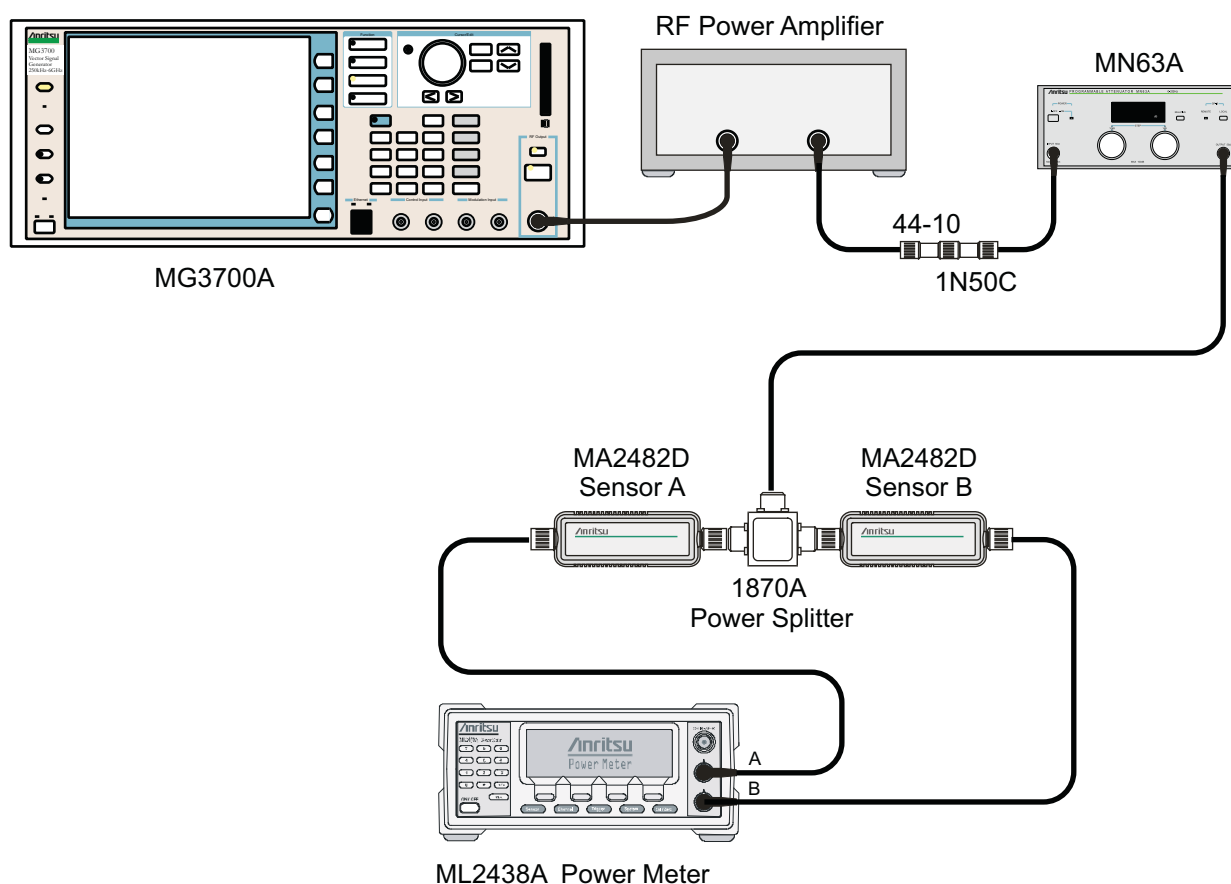

Figure 3-6. ISDB-T SFN Level Accuracy Pre-test Setup
3. Connect the MG3700A Signal Generator, Power Amplifier with N(f)-BNC(m) adapters, RF Limiter, MN63A Programmable Attenuator, Power Divider, Power Meter, and Power Sensors as shown in Figure 3-6.
50. Turn Off the power amplifier, disconnect the power splitter from the MS271xE, and re-connect Sensor A to the power splitter as shown in Figure 3-6 on page 3-24.